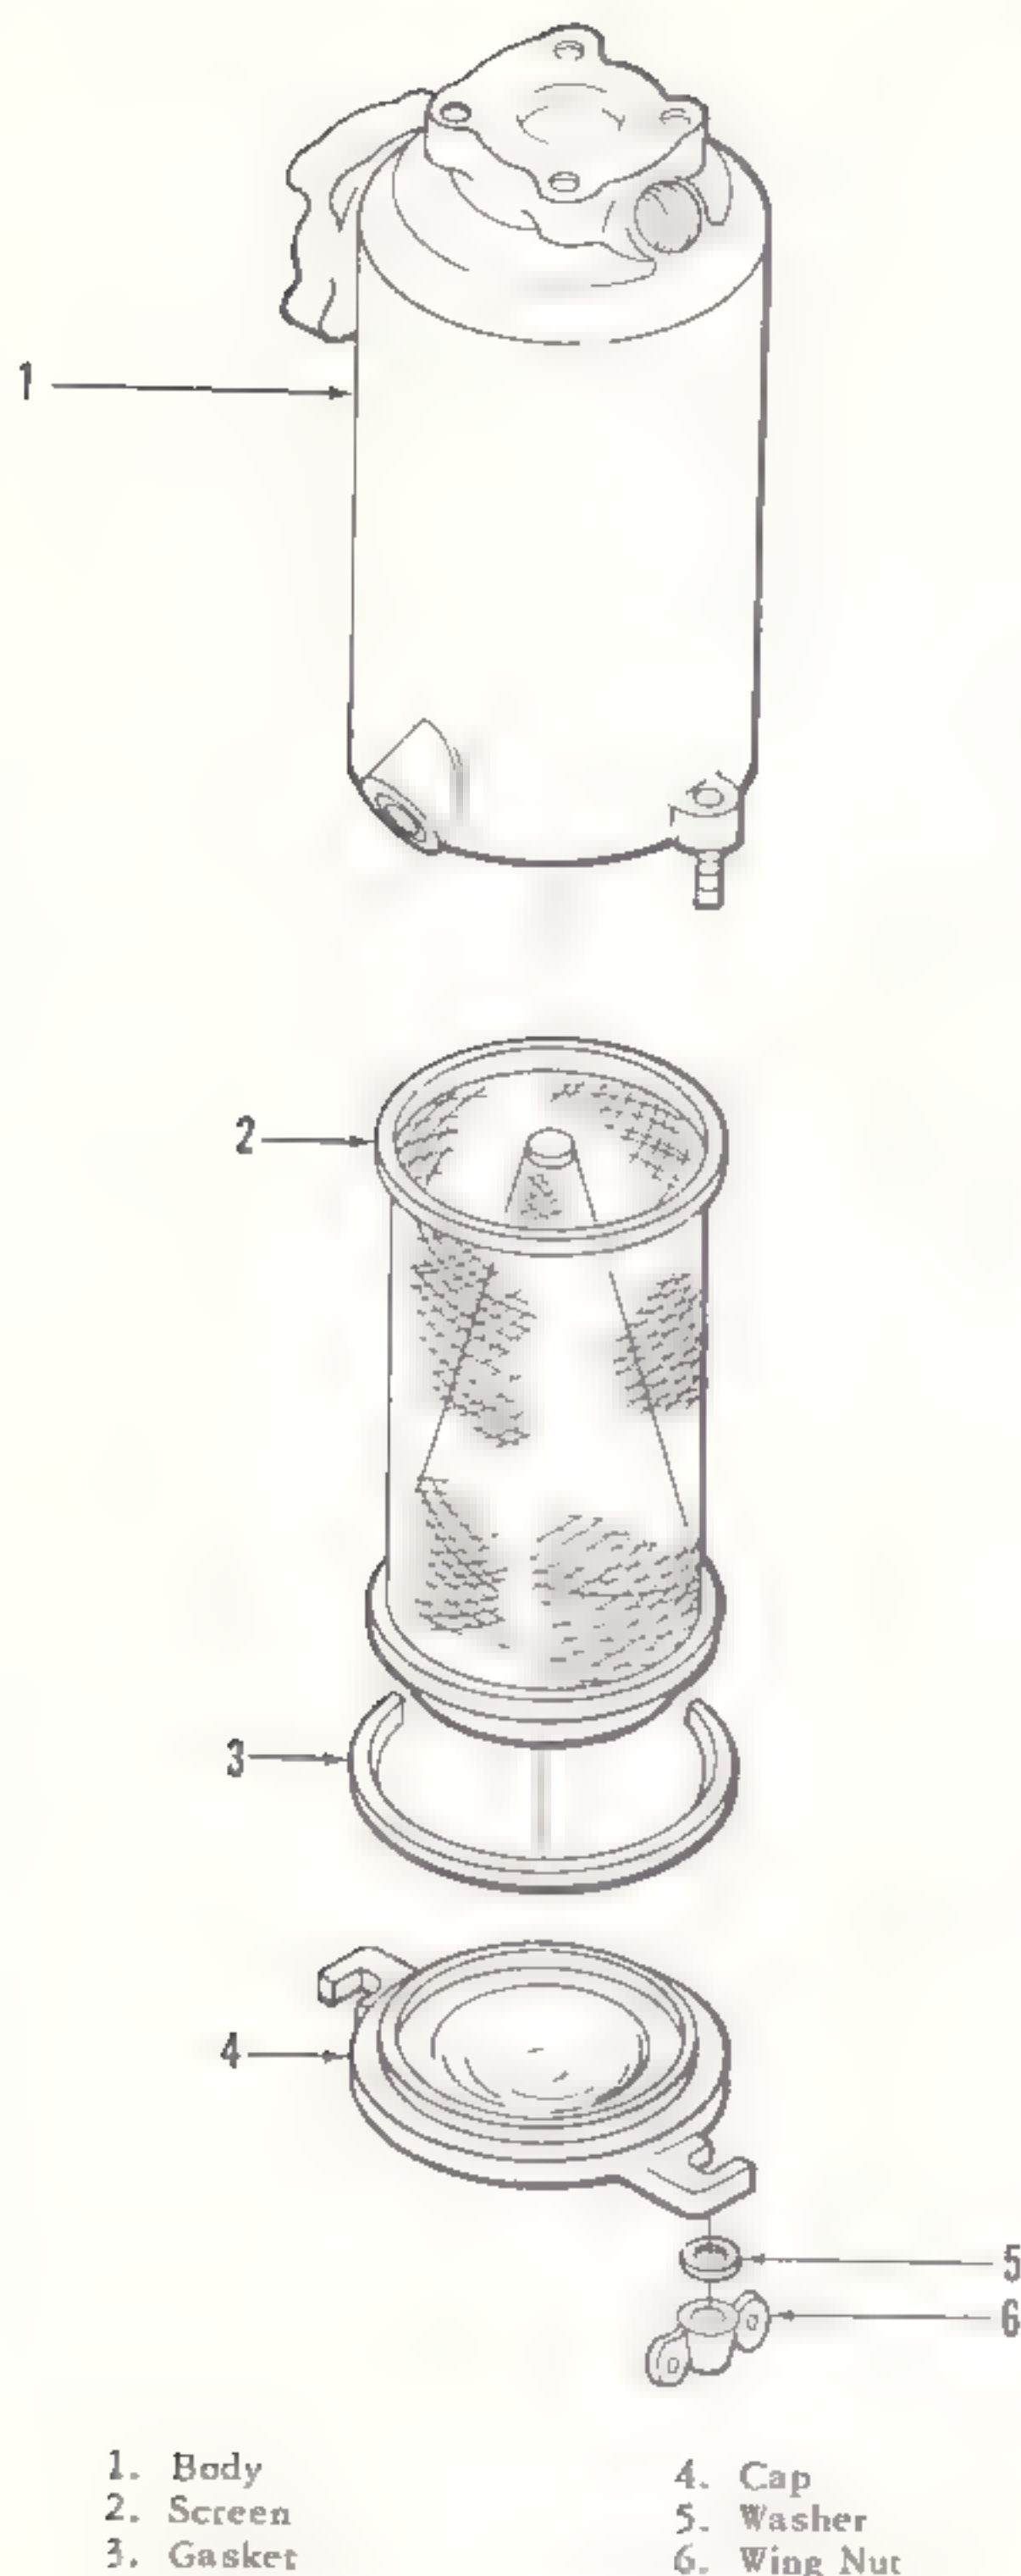

Figure 5-35. Fuel system screen
e. Remove lock wire from wing nuts (6, figure 5-35). Loosen wing nuts until cap (4) is free of body (1).
5-103. Installation. a. Position new gasket (3, figure 5-35) on cap (4).
b. Insert screen (2) into body (1) until it bottoms on flange in top of body.
c. Engage lugs of cap (4) with mounting studs on body (1).